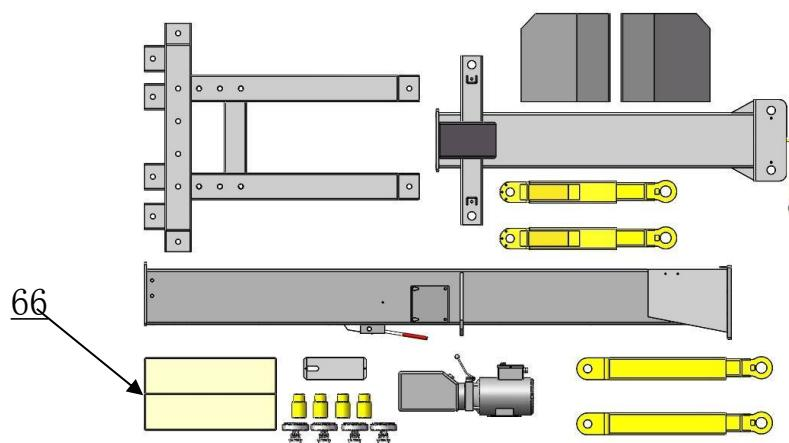

Fig.8
2. Move aside all the parts and check according to the shipment parts list (See Fig.8)